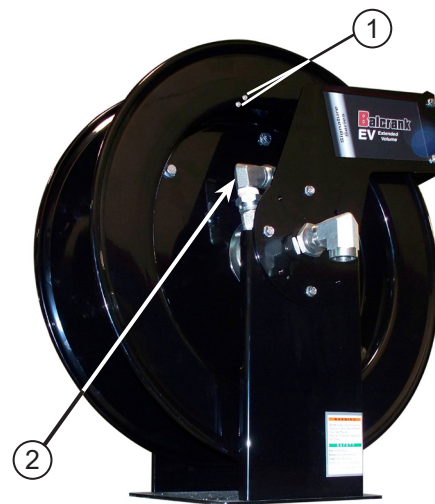

Figure 7
4. Disconnect and remove service hose U- bolt by loosening nuts (1) and disconnect hose from 90° adapter (2) (figure 7).